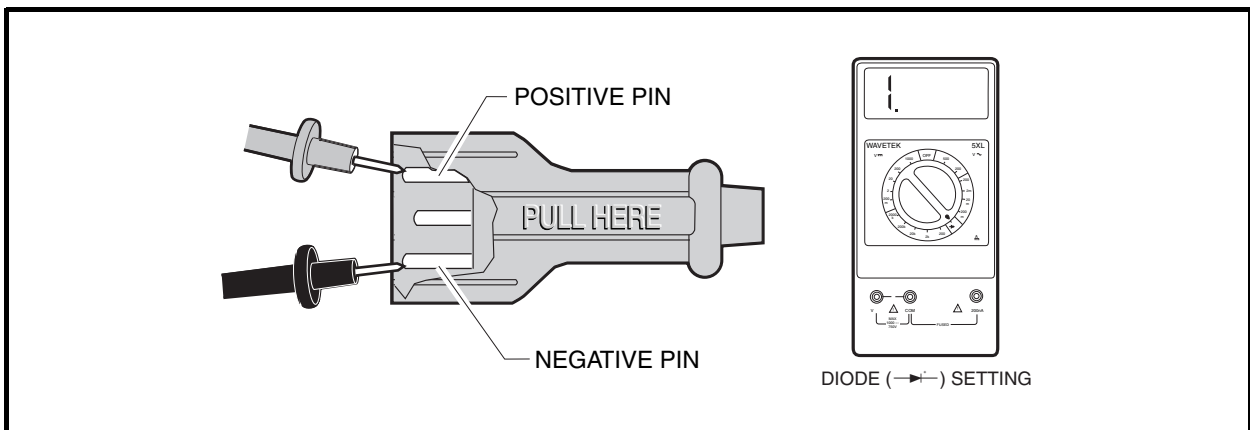

Figure 5-14 DC Plug Test
2. Using a multimeter set to the diode test function ($\rightarrow|$), place the positive (+) probe of the multimeter on the pin marked positive (+) on the DC plug (**Figure 5-14, Page 5-17**). Place the negative probe (–) on the pin marked negative (–). The multimeter should indicate an overload (no continuity).